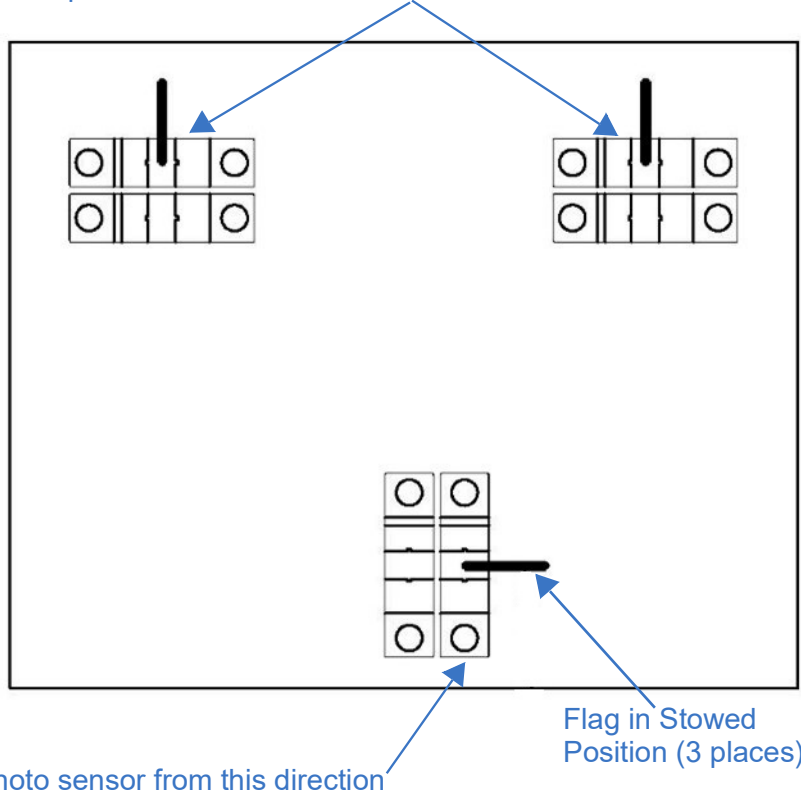

Figure 7-7 RCP PCB Photo Sensors (Dual-Tilt)
5. The pan and tilt functions have two photo sensors for each function. It is important that the flags engage the correct photo sensor from the proper direction when setting the home position. To set the Tilt Home Position, turn the timing ring on the tilt shaft such that it rotates down towards the upper photo sensor (Figure 7-7). As you approach the sensor, watch the controller. As soon as the right "Tilt Down" LED goes out, stop rotating the ring and tighten the set screw. This should be roughly 80% penetration into the sensor with the flag. Repeat for the other tilt shaft.
6. To set the Pan Home Position, turn the flag counterclockwise (looking from above the RCP) until the "Pan Right" LED goes out (see Figure 7-7). Tighten the adjustment screws to secure the ring.